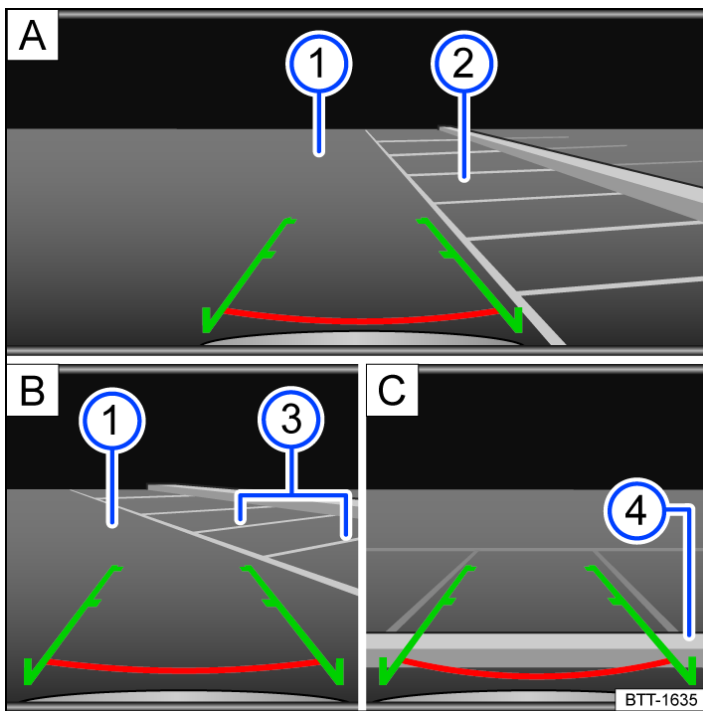

Fig. 1 Infotainment system display: driving into a parking space using the rear view camera system without parking modes.
Key to → Fig. 1:
- Position the vehicle in front of the parking space → Fig. 1 **A** ②.